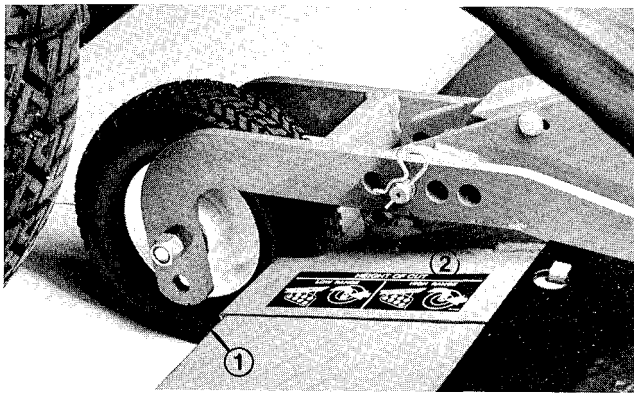

Figure 68
1. Adjust cutting unit to highest height-of-cut. Position castor wheel axles in lower castor fork holes (Fig. 68, 69). If checking front cutting unit, reposition two rear castor's clevis pins to highest height-of-cut setting (Fig. 68). On the front castors, move all castor spacers to the underside of the castor arms (Fig. 68). To check outboard units, move all castor shaft spacers to the underside of the castor arms and castor wheel axles to lower castor fork holes.